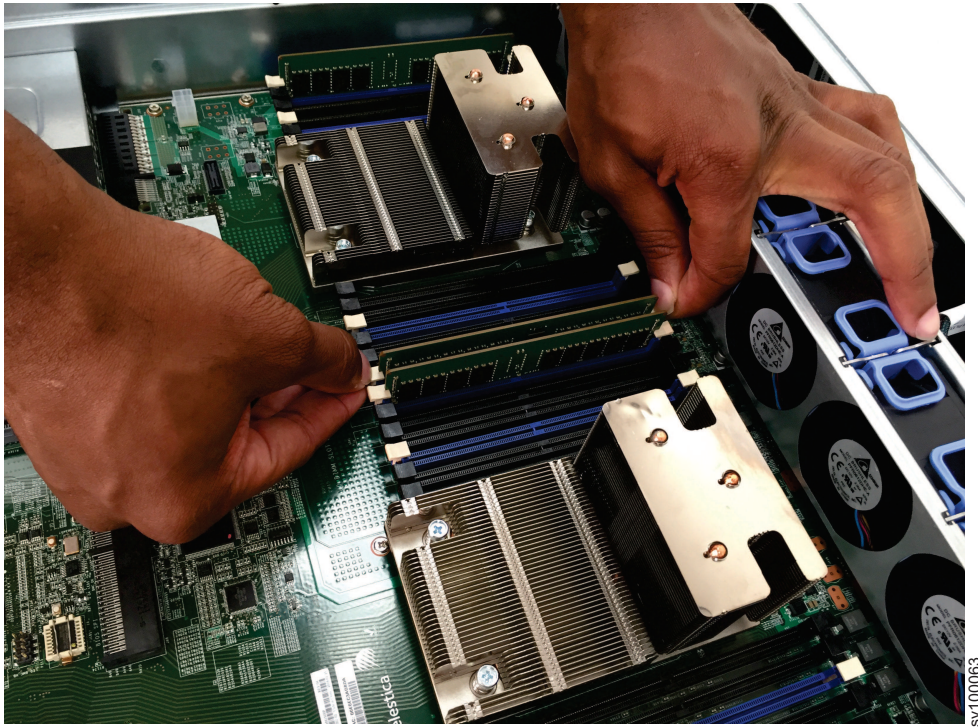

Figure 74. Ejecting a memory module
5. Press the locking tabs on the side of the DIMM to eject it, as shown in Figure 74.